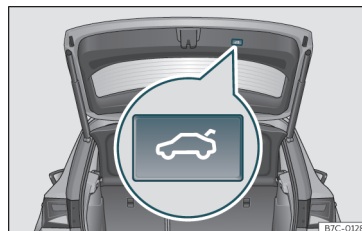

Fig. 6 Rear lid: button to close rear lid.
- Closing the rear lid: hold one of the handles on the inner trim and close it by sliding down, or press the button on the rear lid* >>> **Fig. 6**.